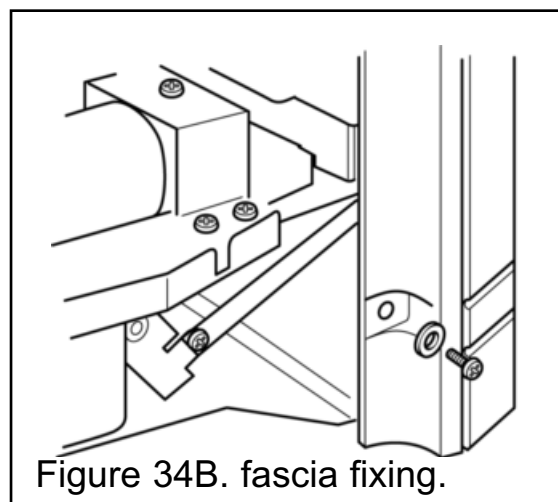

Figure 34B. fascia fixing.
3. Secure the bottom of the fascia using the two machine screws and washers supplied (See figure 34B).